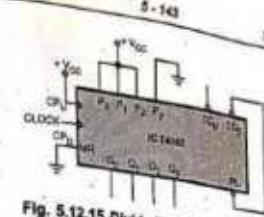

Fig. 5.12.15 Divide-by-7 down counter
**Solution :** For the DOWN counter, the clock pulses are applied at  $CP_D$  input. When the output becomes 0, the counter is loaded with preset inputs 0111 and the states will be : 0111, 0110, 0101, 0100, 0011, 0010, and 0001. The circuit is shown in Fig. 5.12.15.
- Connect the circuit shown in Fig. 5.12.15. The  $Q_2$  and  $Q_3$  outputs are ANDed and are connected to clear input (with  $\overline{PL} = 1$ ). As soon as count becomes 1100, the counter is cleared.